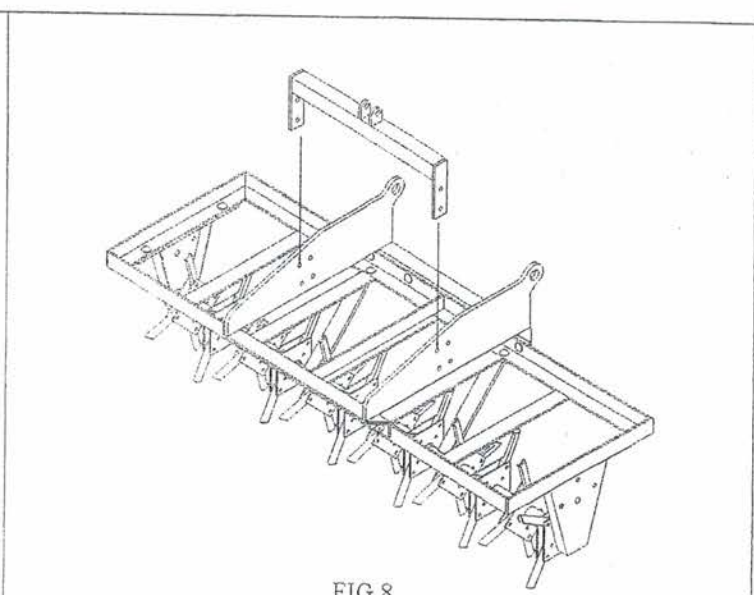

FIG. 8
7. Slip cylinder mount (Key 13) over main pivot frame (Key 12) that is bolted to the aerator frame. Align front holes in arms of main pivot with holes in arms of cylinder mount and secure with $\frac{3}{8}$ " x 1" bolts and whizlock nuts. Tighten these bolts also. **FIG. 8**